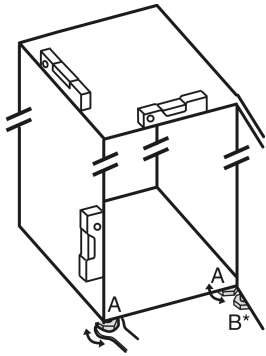

Fig. 3
- Unscrew the adjustable feet Fig. 3 (A) using the open-end wrench provided and a spirit level until the appliance is firmly aligned and level.
- Unscrew the adjustable foot Fig. 3 (B) at the swap bearing block using the open-end wrench provided until it rests on the floor.
- Turn the adjustable foot Fig. 3 (B) another 90°.